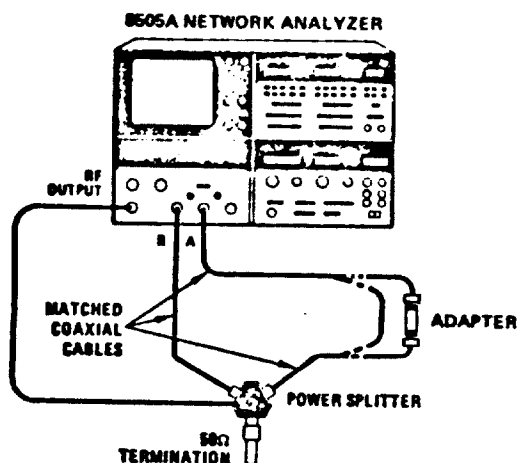

Figure A4-14. Phase Accuracy Test Setup
- b. Connect equipment as shown in Figure A4-14 with two 24-inch matched cables connected in series between Port "A" and the 3-way power splitter.